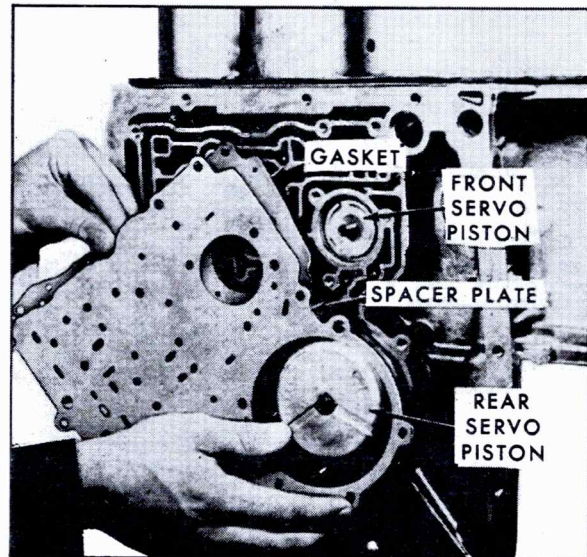

Fig. 7-159 Removing Control Valve Spacer and Gasket
8. Remove control valve spacer and spacer-to-transmission case gasket, Fig. 7-159.
1. Lift front servo piston, washer, pin, retainer and spring out of transmission case, Fig. 7-159.
2. Remove rear servo assembly from transmission case, Fig. 7-159.